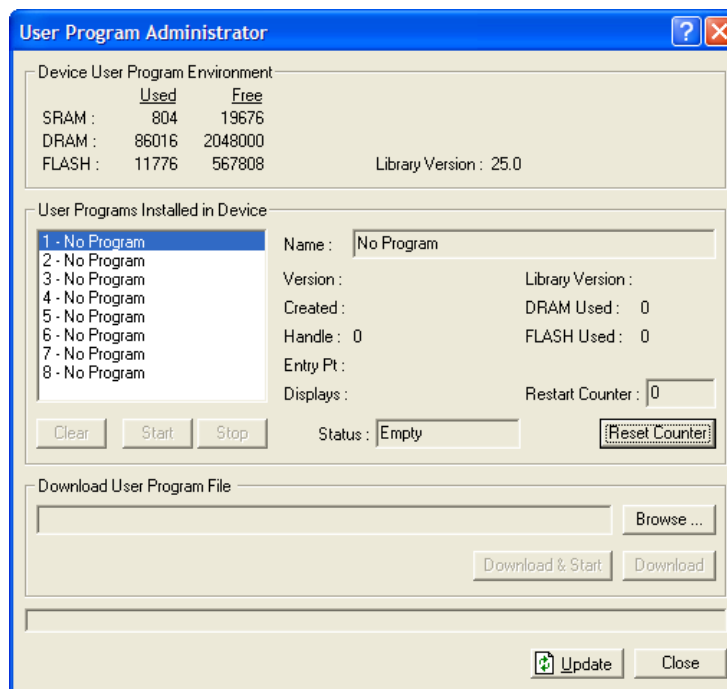

Figure 2-8. User Program Administrator
3. Select **Utilities > User Program Administrator** from the ROCLINK menu bar. The User Program Administrator screen displays (see Figure 2-8):